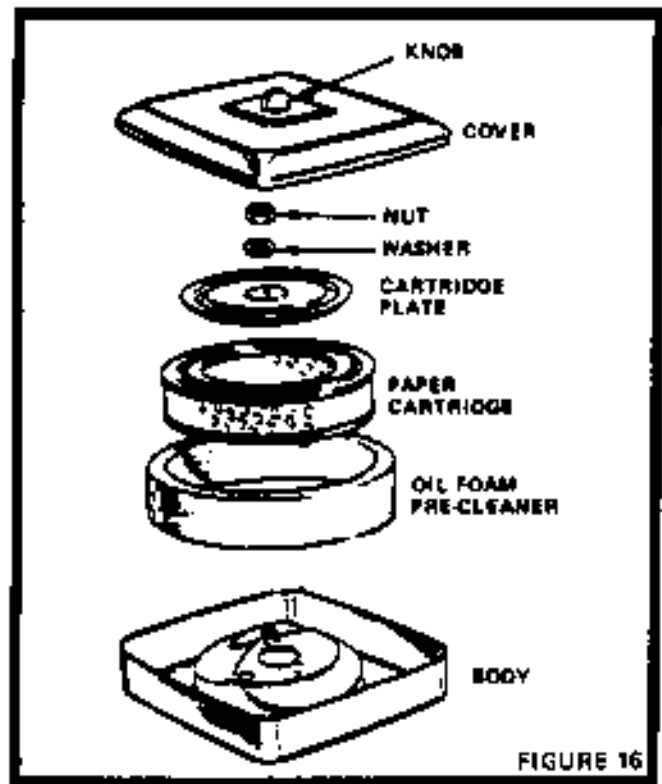

FIGURE 16
- Unscrew Knob (Fig. 16) to remove Cover.